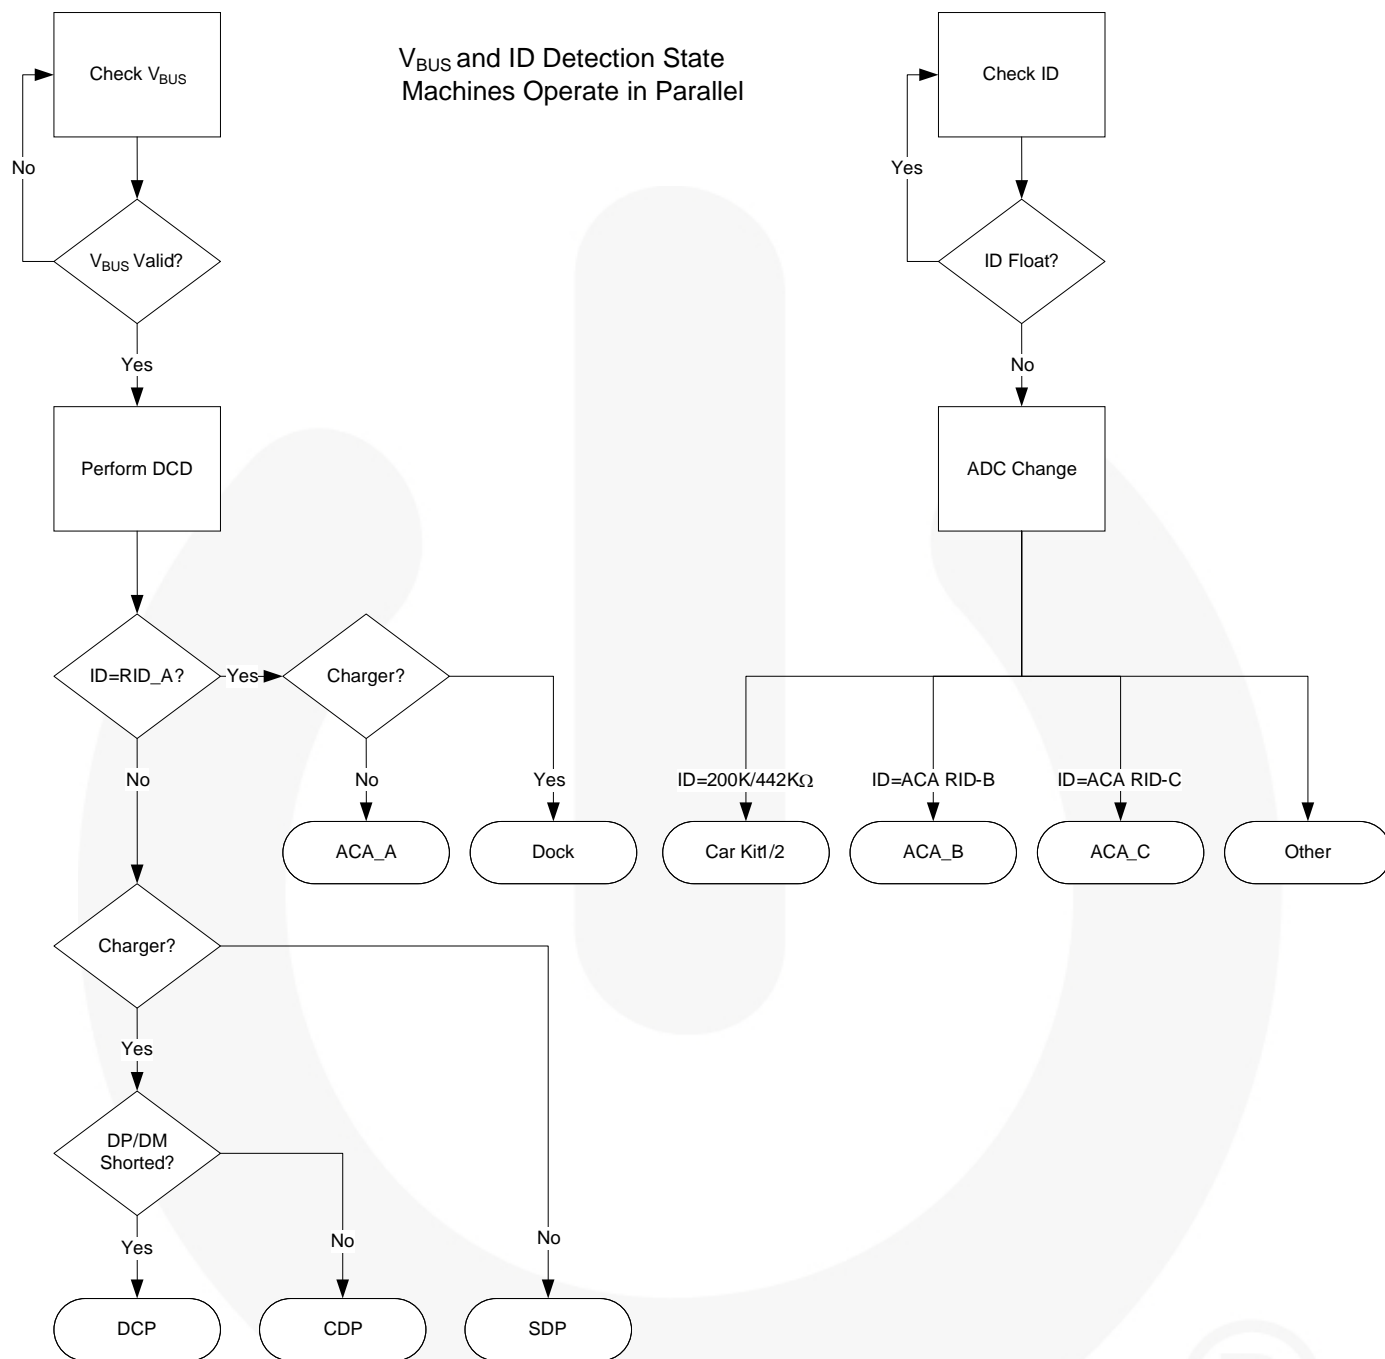

Figure 5. Accessory Discovery State Machine Flow Diagram
Examples of I²C write and read sequences are shown in Figure 4 and Figure 5, respectively.
The USB detection flow is shown in Figure 5. Note that the INTB Mask bit in the Control register must be cleared after a reset or power-up before interrupts can be signaled by the FSA9285A. Individual Interrupt Masks bits can be enabled by writing the Interrupt Mask register (see Table 6).
- Figure 5 illustrates operation with a valid V_{DDIO} supply voltage. Figure 5 does not illustrate Dead Battery Provision (DBP) See Section 9 for details.